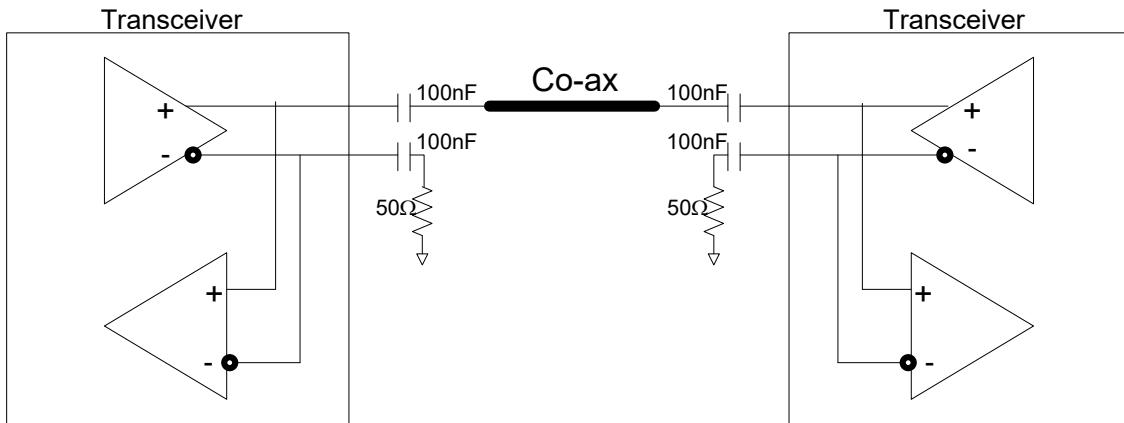

Figure 2. Typical Coax Termination Scheme (“+” and “-“ May be Swapped Depending on the Device)
- See Figure 2 for coax termination scheme.